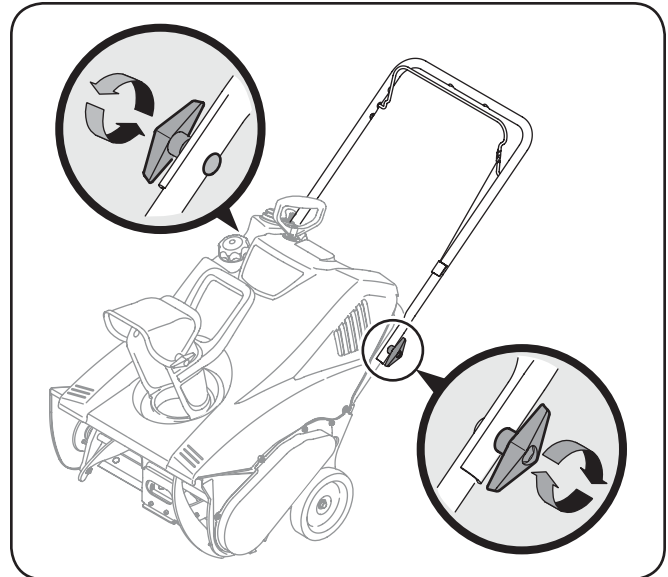

Figure 3-2
3. Tighten the wing knobs. See Figure 3-2.